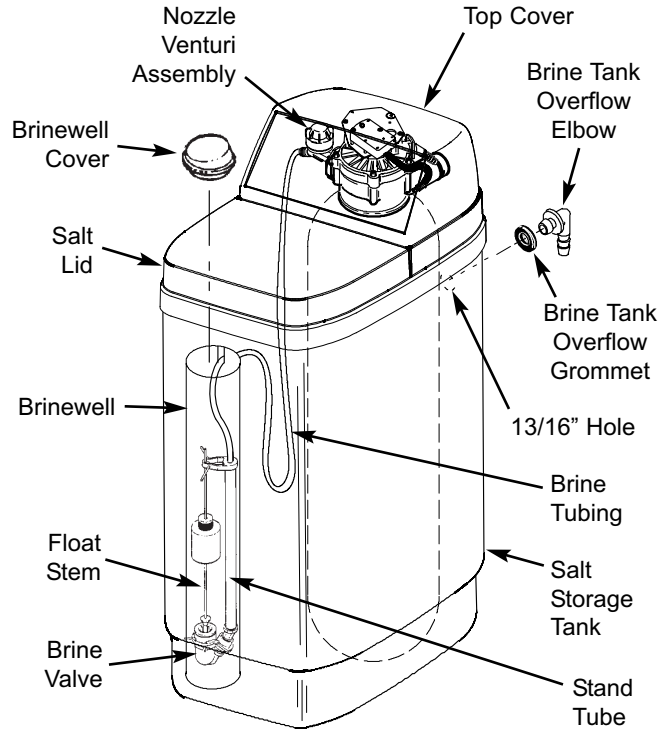

FIG. 11
1. North Star models are factory assembled. During installation, remove the salt lid and set it aside to prevent damage. Check the brinewell to be sure it is secured and vertical (See Figure 11). Unsnap the faceplate cover to expose the softener valve assembly.